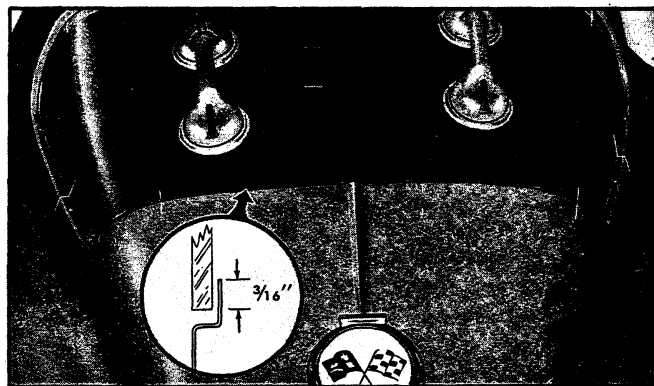

Fig. 57—Fitting Glass to Window Opening
11. After proper glass to pinchweld relationship has been attained, mark position with grease pencil on glass and body as shown in Figure 57.